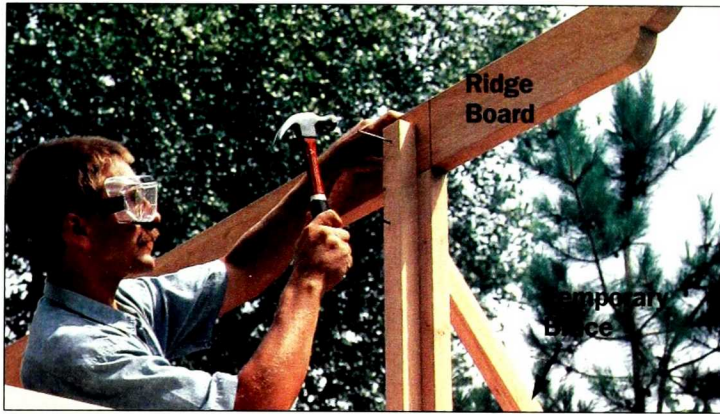

Figure 9: Install the ridge board on top of the support post. Decorative end cuts are quick and easy to make with a jigsaw.
- Install the ridge board and the three-member eave posts and beams (Figure 9). The center members of the beams and posts are inset 1 inch to avoid a boxy look.